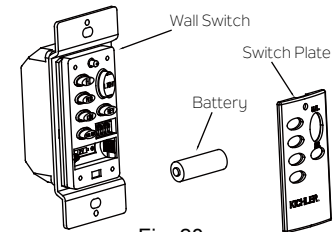

Fig. 28
Step 1. Use a small flat screw driver and gently pry it apart from the top or bottom of the switch plate. Install 1, 12volt battery included with wall mount Control system and make sure it is seated correctly. Replace the switch plate. (Fig. 28)
Step 2. Test the transmitter by pressing and releasing ANY button. A RED Light should illuminate, if not, check to make sure the battery is inserted and seated correctly. (Fig. 28)